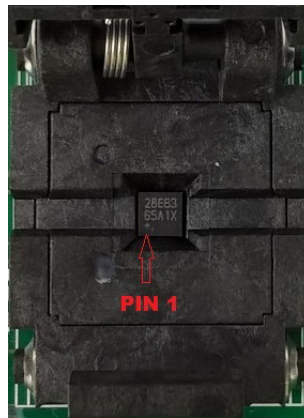

Figure 9. Orientation of the DS28E83 and DS2476 in the Burn-In Socket
- a) (Optional—Perform only if using the coprocessor): Open the 1st socket and insert a DS2476 into one of the cavities, as shown in Figure 9.
- b) Open the 2nd socket and insert a DS28E83 into one of the cavities, per the same orientation shown in Figure 9.